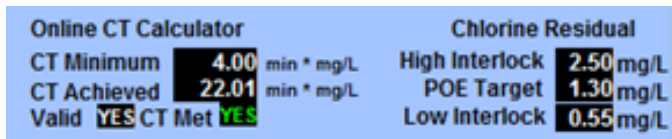

Figure 10– Online CT Caculator and Chlorine Residual KPIs
**Real-Time Online CT Calculator:** The right-hand side of the site overview screen contains summary information from the online CT Calculator. This consists of displaying real-time key performance indicators (KPIs) for the disinfection process. This includes the Required CT, Achieved CT, and an indicator if the Required CT is currently being met or not. A Calculation Valid/Invalid indicator is also shown to remind the user that the CT numbers are only valid once the well pump has been running for several minutes and all of the various analyzers/transmitters have had a chance to achieve steady state after start-up. This is shown in Figure 10.